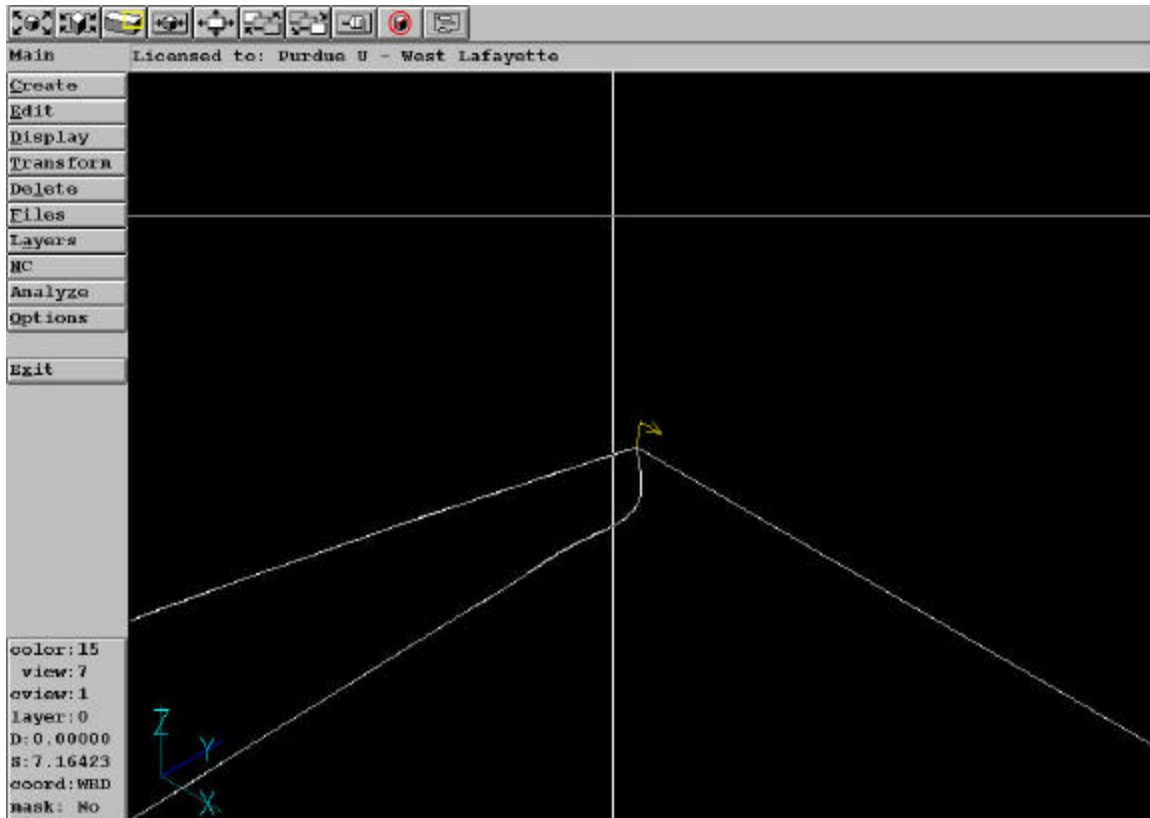

Figure 13: Detail of arrow at rear of wing surface
- 4.) Use the  (zoom window key) located on the top toolbar to examine the yellow arrow that represents the surface. Press the zoom button, and surround the arrow on the rear of the wing. See figure 13 for the zoomed in view of the arrow.